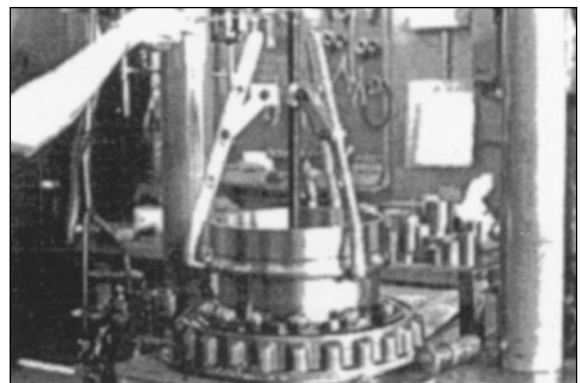

Figure 90
28. Remove bearing inner race and spacer from hub, using puller. Figure 90.